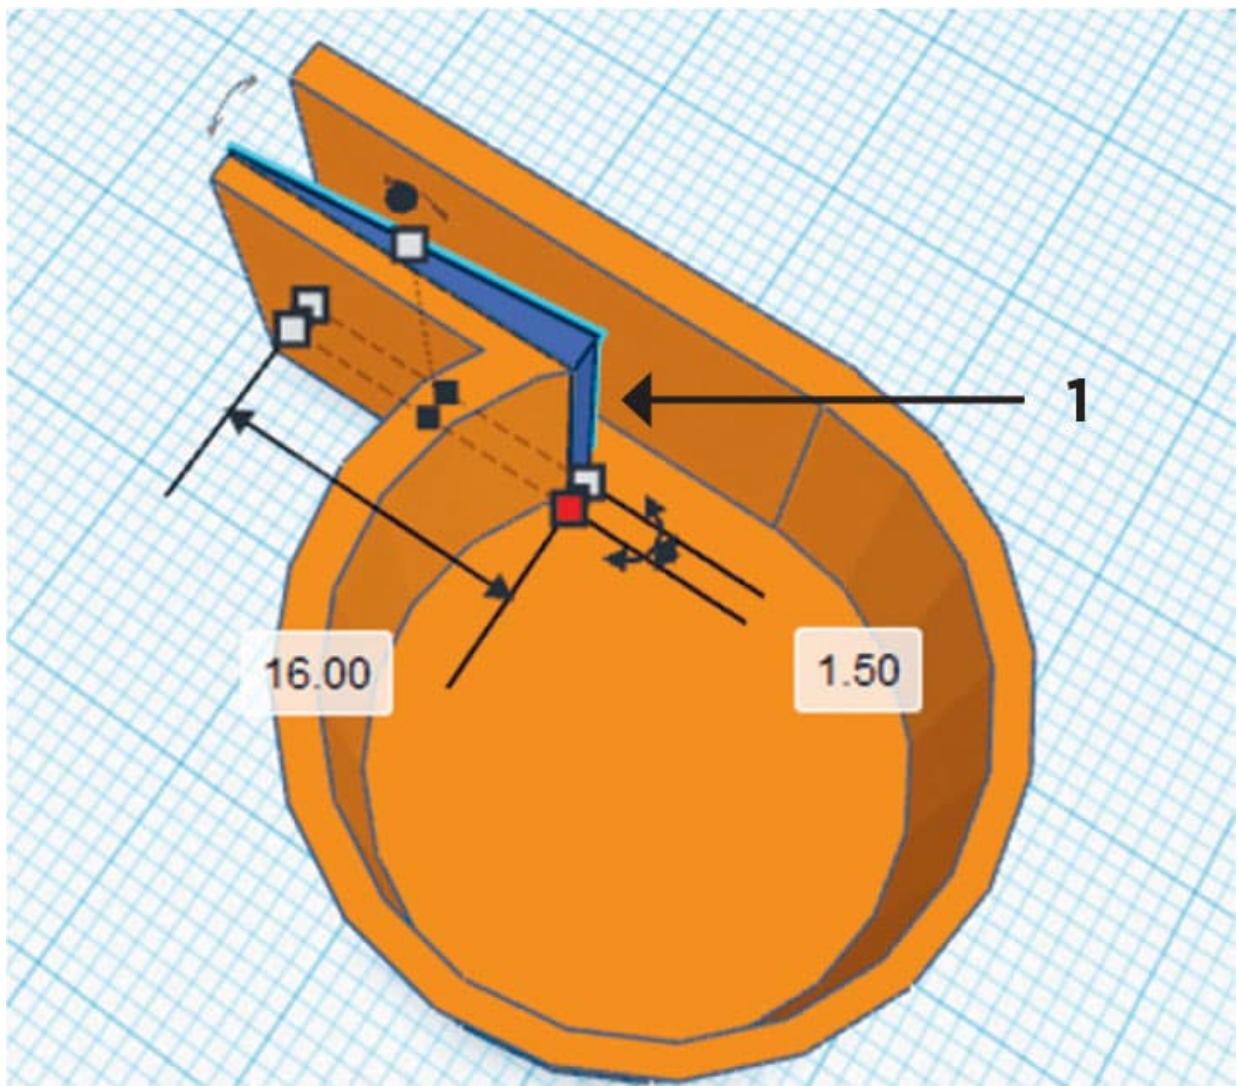

FIG. 4: Use a wedge to taper the inside of the whistle mouthpiece.
3. The mouthpiece hole needs to be tapered on the inside. Use the **Wedge** tool from the **Basic Shapes** toolbox to create a wedge that will attach to the inside of the mouthpiece to taper it. The wedge should be rotated as shown in fig. 4. It should be about 1.50 mm thick at the broader end (arrow 1 in fig. 4). Attach it to the inside of the mouthpiece hole as shown. Adjust the **SnapGrid** so you can make modifications by less than 1 mm. There should be no gaps between the wedge and the lower face of the mouthpiece it attaches to. See fig. 4 for details.